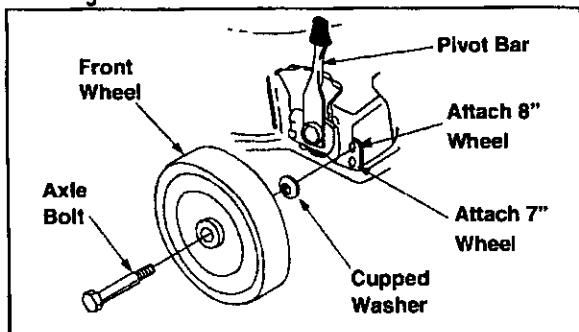

Figure 7
- Insert front axle bolt through front wheel. Place cupped washer on axle bolt (crowned side against the wheel). Insert axle bolt into pivot bar, using the corresponding hole. Tighten securely. See Figure 7.